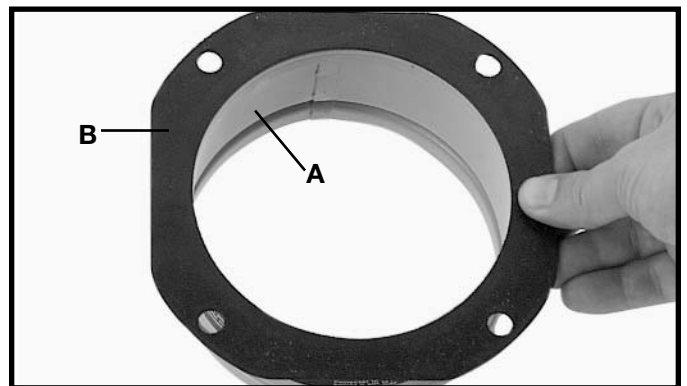

Fig. 5
1. Align the holes in the exhaust flange (A) Fig. 5 with the holes in the exhaust flange gasket (B).